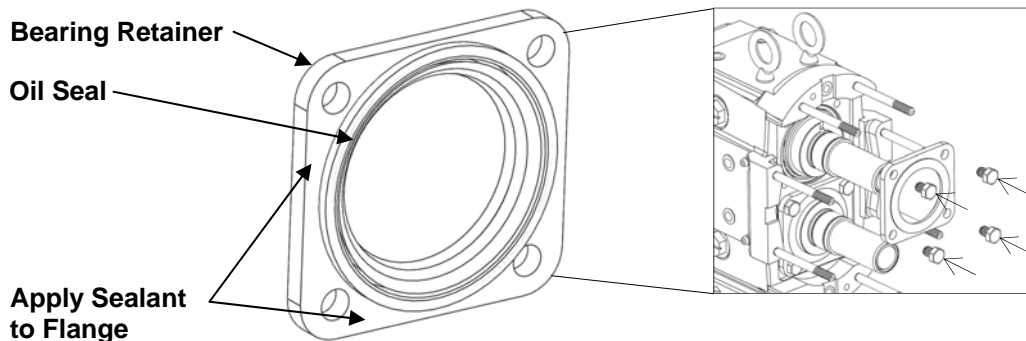

Figure 42: Bearing Retainer Installation
6) Once the correct backface clearance is achieved, fill all bearings with grease through the fittings on the mounting pads until grease is noticeable around the bearing assemblies. The shafts should be rotated during this initial greasing to distribute the grease evenly. Apply a light film of lubricant to the inside and outside diameters of the oil seals and install them into the bearing retainers. Apply a silicone sealant to the outside flanges on the bearing retainer (Figure 42). Once the silicone sealant is applied, install the bearing retainers onto the gear case.